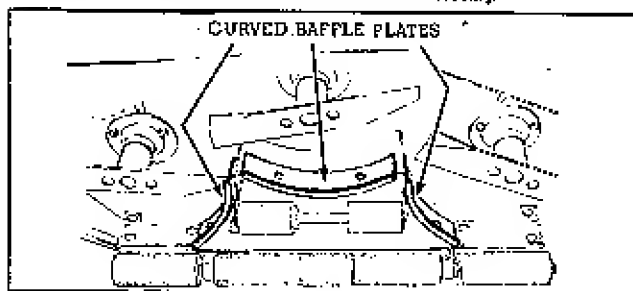

FIG. 6
3. Install the curved mulcher baffles (Left Hand, Right Hand, and Center) as shown in Figure 6. These baffles are each held in place by 2 carriage bolts, lockwashers, and hex nuts. Note that lockwashers and hex nuts are on the inside of the baffle support.